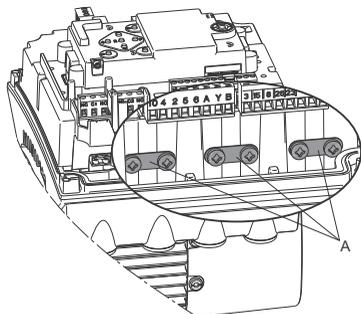

Fig. 63 Connecting the cable screens to earth
- Connect the cable screens of the bus cables to earth via one of the earth clamps (fig. 63, A).